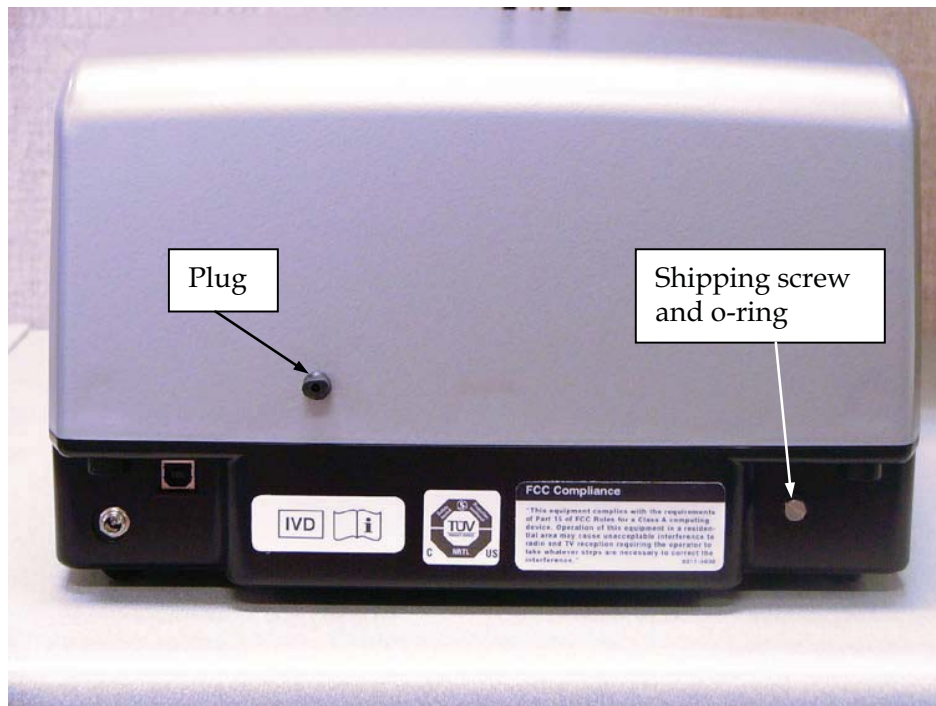

Figure 2: Shipping screw, o-ring, and plug in usage position
3. Install the plug in the hole where the shipping screw was originally located, and insert the screw and o-ring in the hole where the plug was originally located. See **Figure 2**.